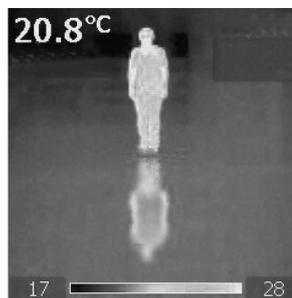

Figure 3: Thermal image of a person and their reflection on the ground
- Reflections on reflecting surfaces (Figure 3)